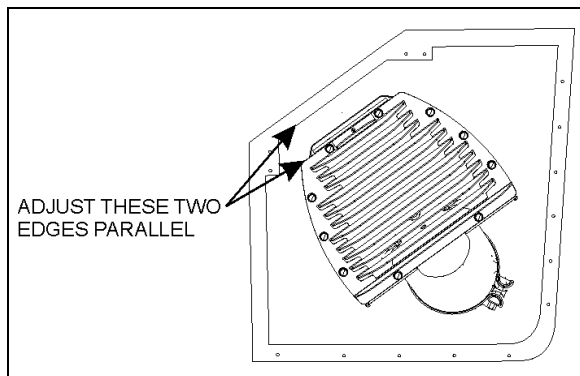

FIGURE 7: DIFFUSER POSITION ADJUSTMENT 04015\_1
2. For proper angular position, make sure that the two edges shown on figure 7 are parallel with each other.